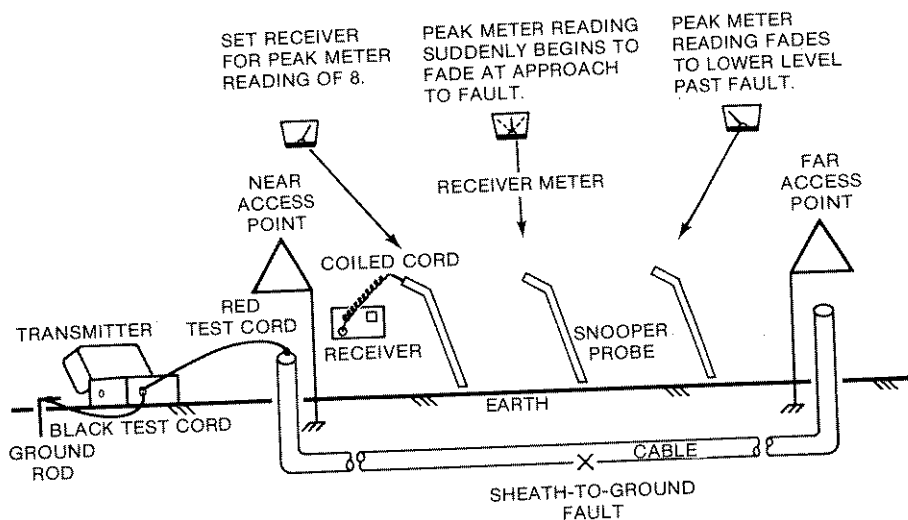

Figure 3-4.
3. Connect the black test cord clip to the ground rod (see Figure 3-4).
4. Plug the jack end of the red/black test cord into the RED/BLACK TEST CORD jack receptacle on the transmitter (see Figure 3-4).